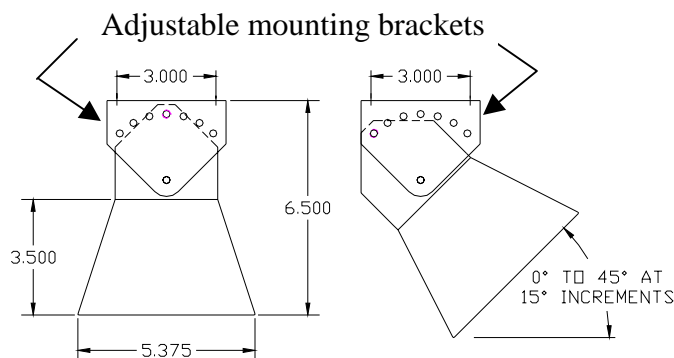

Figure 1: end view
1. In the hardware bag shipped with your heater you will find two adjustable mounting brackets and fastening screws that should be assembled as shown in figure 1. Once assembled to the heater and mounted, these brackets enable the heater to be angled in 15 degree increments up to 45 degrees. The mounting centers for the bracket are shown in figures 1 and 2.